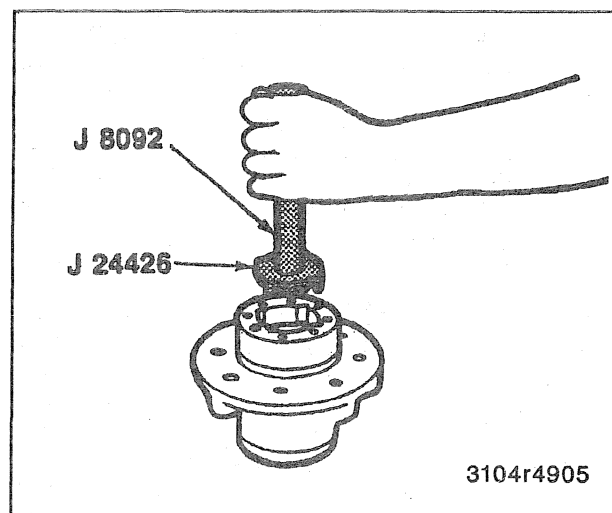

Figure 31—Seating Outer Bearing Cup onto Retaining Ring
- Drive the cup back onto the retaining ring using J 24426 (figure 31).